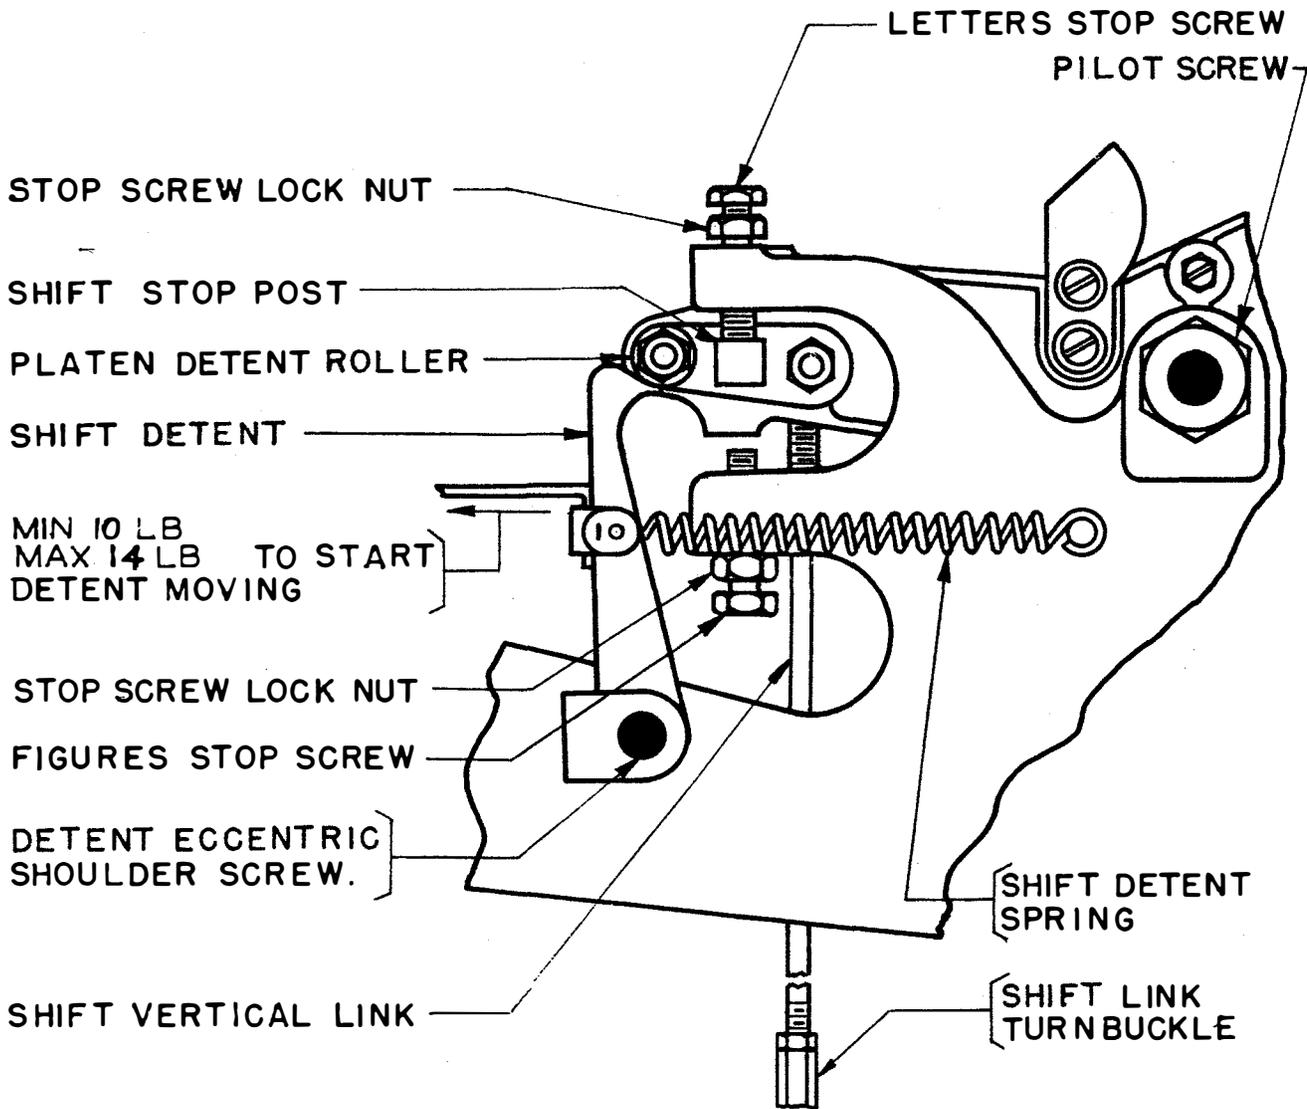

Figure 30
To Adjust: Disconnect the Line Feed and the shift vertical links at the upper-shoulder screws, unhook the platen balance and shift-detent springs, and reposition the platen-unit pilot screws. See Figures 30, 34, and 35.
2.51 Platen-shift Stop-post top and bottom surfaces should be parallel to a line through the center of the platen-detent roller and the platen-unit pilot screws as gauged by eye. See Figure 30.
To Adjust: Reposition the FIGS stop screw. See Figure 30.
To Adjust: Raise the LTRS stop screw if the impression is light at the bottom, and lower the screw if light at top. See Figure 30.
by the function-bail blade. These two clearances should be within 0.010 inch of each other. See Figures 30, 31, and 34.
2.61 Shift Detent should ride the same distance on either side of platen-detent roller, gauged by eye, when the platen is shifted from FIGS to LTRS position. See Figure 30.
2.62 Shift-detent Spring: The shift-detent spring should have a tension of minimum 10 pounds, maximum 14 pounds. See Figure 30.